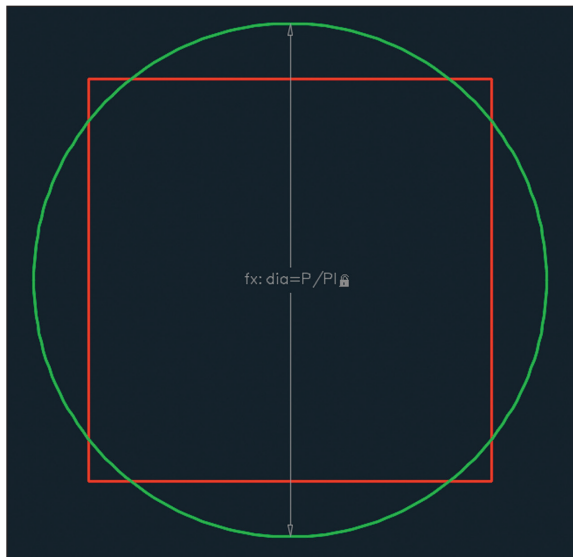

FIGURE 12.9 Squaring the circle with constraints defined by formulas
- Select the Diameter constraint tool in the Dimensional panel, select the circle, click a point inside the circle to locate the dimension line, type $dia=P/PI$, and press Enter. The variable PI is hard-coded as 3.14159265; there is no need to define it as a user variable. The circumference of the circle is now equal to the perimeter of the square, traditionally called *squaring the circle* (see Figure 12.9).